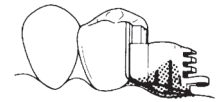
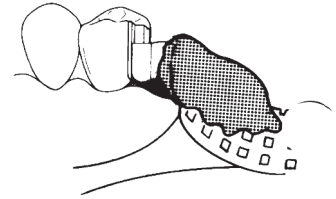

Fig. 13
Fig. 14
5. Cover the female's retention flanges and block out underneath the male using Rubber Sep (order no. 812045) or wax (Fig. 13). Later this blockout material will be removed, creating a space in the processed denture acrylic which will allow the flanges to flex as the partial denture is inserted and removed. Lute the female to the framework with self-curing, denture repair acrylic (Fig. 14).